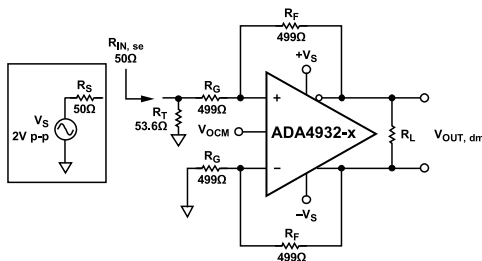

Figure 59. Adding Termination Resistor, R_T
3. Figure 59 shows that the effective R_G in the upper feedback loop is now greater than the R_G in the lower loop due to the addition of the termination resistors. To compensate for the imbalance of the gain resistors, add a correction resistor (R_{TS}) in series with R_G in the lower loop. R_{TS} is the Thevenin equivalent of the source resistance, R_S , and the termination resistance, R_T , and is equal to $R_S || R_T$.